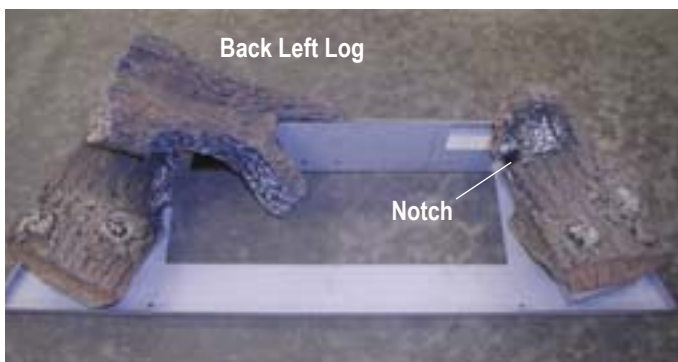

Figure 29b. Back Left log placement.
3. Arrange the ember chips on top of the burner tray. Care should be taken when placing the ember chips, as blocked burner ports may cause an incorrect flame pattern, carbon deposits and delayed ignition. Also, the chips must never be placed in a way that obstructs any of the air inlet ports, located at the rear of the burner, as shown in **figure 29b**.
- Step 3. Place the back left log on top of the bottom left log, while resting the right side of the log on the mounting tray. As shown in **figure 29b**.
- Step 4. Place the top right log as shown below in **figure 29c**. Align the tab on the underside of the log, far right end, with the provided notch in the bottom right log, **Figure 29b**.